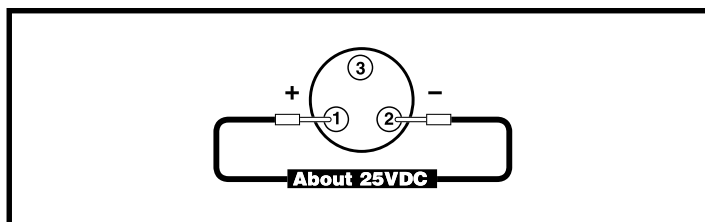
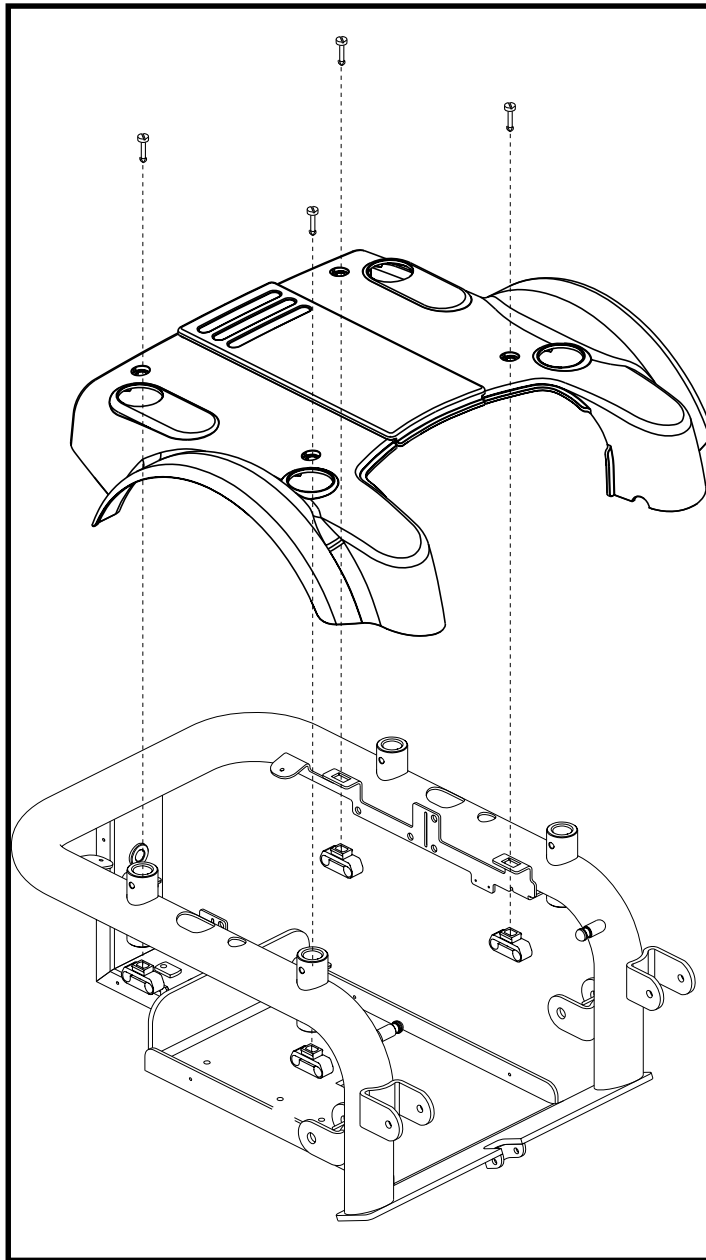

Figure 2. Connector 1a
Figure 3. Jazzy 1121 Shroud Disassembly/Assembly
1. Measure voltage across pin 1 (B+) and pin 2 (B-) of the off-board charger socket (connector 1a.) **See diagram 2 and figure 2.**
- If your multimeter indicates about 25VDC and the polarity is correct, then replace the joystick module (1) and retest the system.
3. Remove the shroud. **See figure 3.**